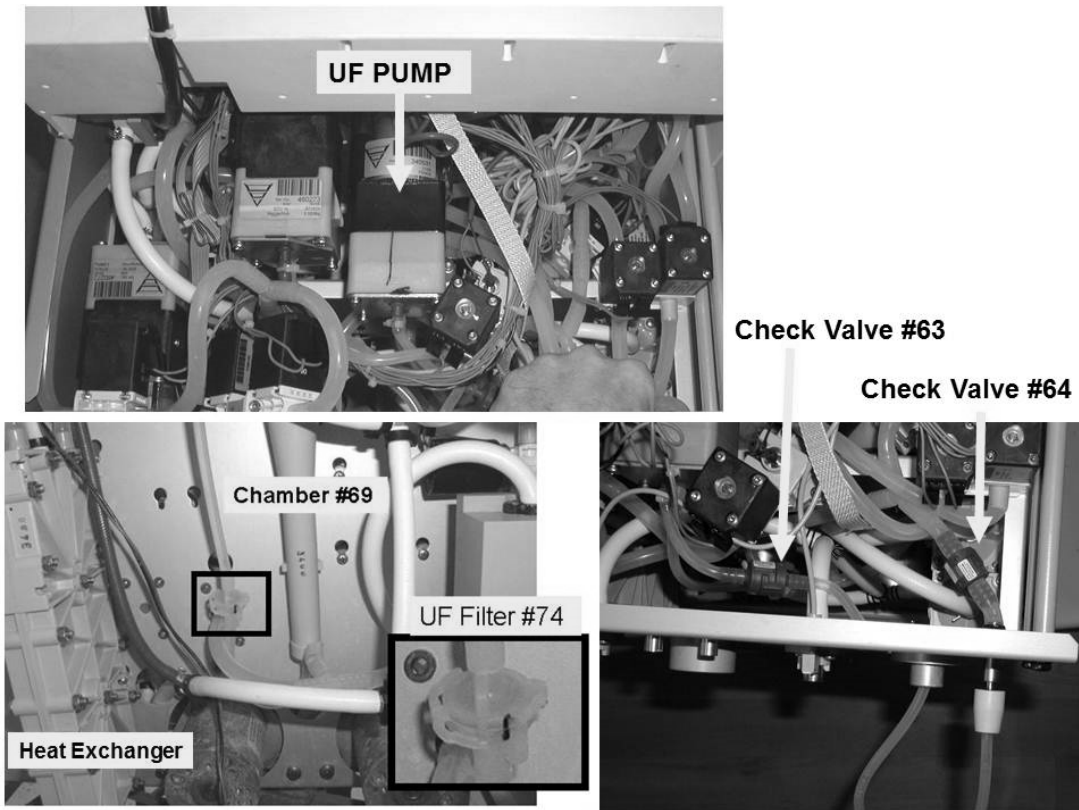

Figure 85 – Hydraulics Top / Front Views
- Referring to Figure 85 (page 548), TWO (2) checks: